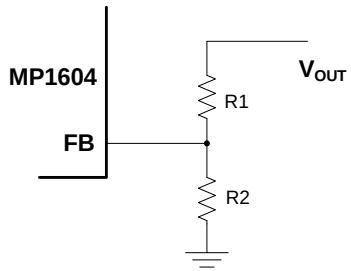

Figure 6: Feedback Network
The external resistor divider sets the output voltage (see Figure 6). Select the feedback resistor (R1, typically between 100kΩ and 200kΩ) that reduces the V_{OUT} leakage current. There is no strict requirement on the feedback resistor. Select R1 to exceed 10kΩ. R2 can then be estimated with Equation (2):
Figure 6 shows the feedback circuit.